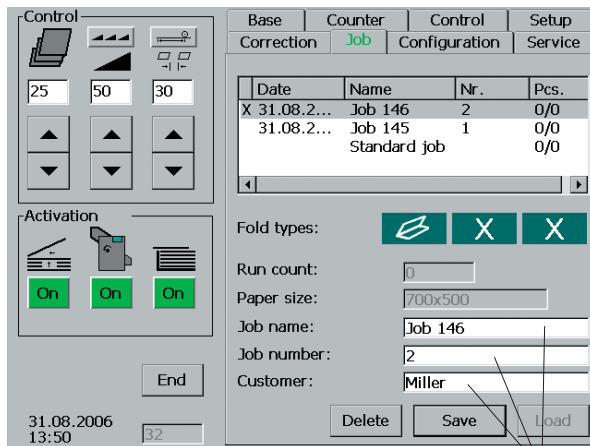

Fig. 69 Job
1. Briefly touch the appropriate display window (Fig. 69/1)